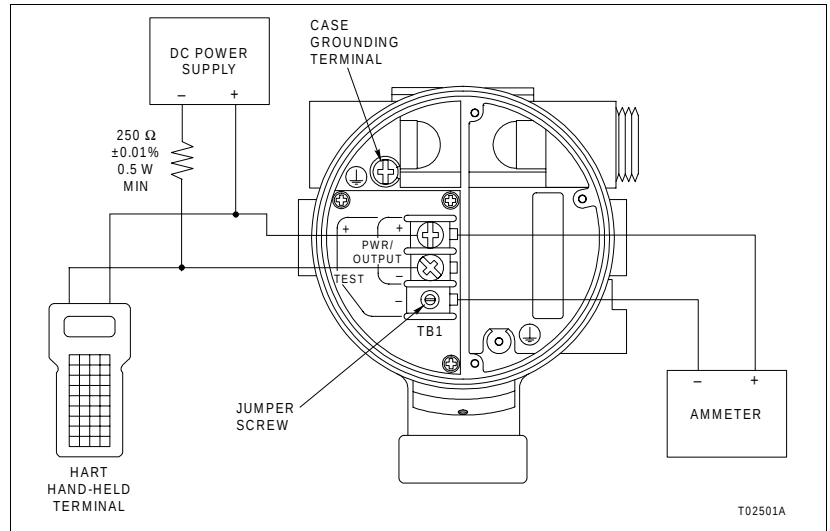

Figure 4-1. Calibration Setup (Typical)
3. Mount and connect the transmitter in a calibration setup (Fig. 4-1).
7. Apply a pressure to the cell equal to the configured or desired primary variable (PV) lower value.